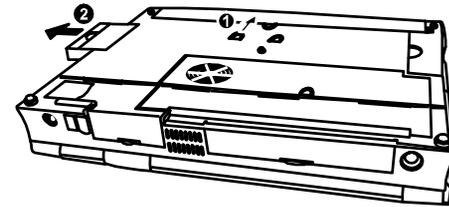

Figure 7-8. Removing the Hard Disk Drive Module
2. PRESS THE LOCKING LATCH TOWARD THE UNLOCKED POSITION AND PULL OUT THE HARD DISK DRIVE MODULE.(Fig 7-8)
5. SLIDE THE HARD DISK DRIVE MODULE INTO THE LEFT BAY UNTIL THE LOCKING LATCH CLICKS INTO THE LOCKED POSITION.(ref fig 7-8)